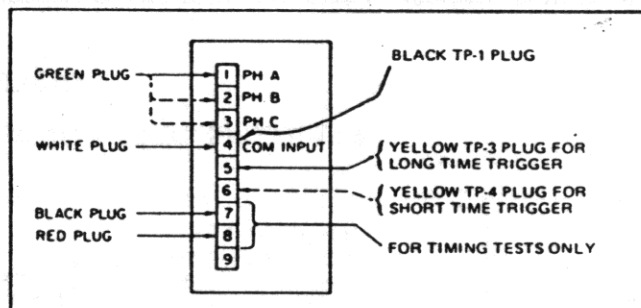

Figure 8A. — Test Connections Models A, A1, A2, A3, C3, D, D1, D2
The connections to the first generation trip devices terminate on an 8 or 9 point terminal block mounted on the side of the device. See Figure 7. To allow using the test set plugs to connect to this terminal block, alligator clips are furnished with the test set to clip onto the terminal block screws. Four of the clips accept the four banana plugs and three accept the pin plugs for the pick-up lights. The bottom line of Table 2 gives the calibrated settings for secondary amperes for the first generation trip devices and on the same page, available models are listed and described. Figures 9A, 9B, 10, 11 and 12 are the time current characteristic curves for the various models. Connections from the test set are different for different models and are shown on Figures 8A through 8D.
There are only three Long Time Bands instead of 6 and they are marked "Maximum", "Intermediate", and "Minimum". On some models, no long time band adjustment is available and the device is marked to show which time band it contains. (3) The Instantaneous Pick-Up is labeled "Instantaneous Trip Setting". (4) The Short Time Pick-Up is labeled "Transfer to Short Time". (5) There are no test jacks provided on the front of the device. Connections for trigger indication are made to points on the terminal block as shown in Figure 8A to 8D. (6) On STATIC TRIP II the knob ref-
Keeping the above differences in mind and making careful reference to the appropriate connection diagram on Figure 8A to 8D, the test instructions in "Testing Static Trip on the Breaker" (omitting the connection instructions in each case), can be used for testing first generation trip devices also. Compare the test results with Table 2 and Figures 9A, 9B, 11 and 12 as applicable.